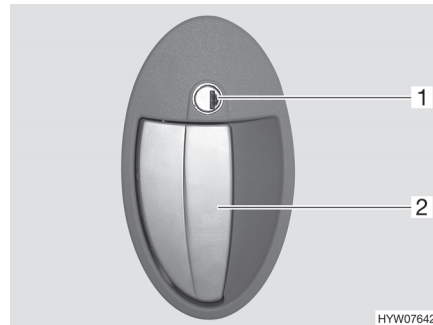

Fig. 51 Door lock (conversion door, outside)
- Insert the key in the locking cylinder (Fig. 51,1) and turn it in a clockwise direction until the door lock is unlatched.
- Pull on the door handle (Fig. 51,2). The door is open.
- Insert the key in the locking cylinder (Fig. 51,1) and turn it in an anti-clockwise direction until the door lock is engaged.